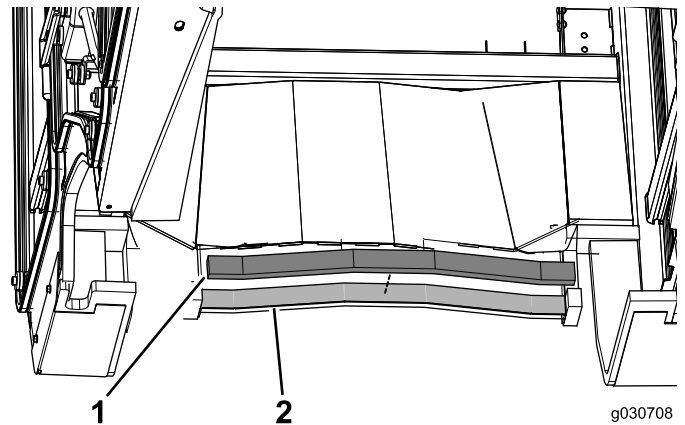

Figure 15
3. Apply the back foam seal to the back of the cab unit (Figure 15).